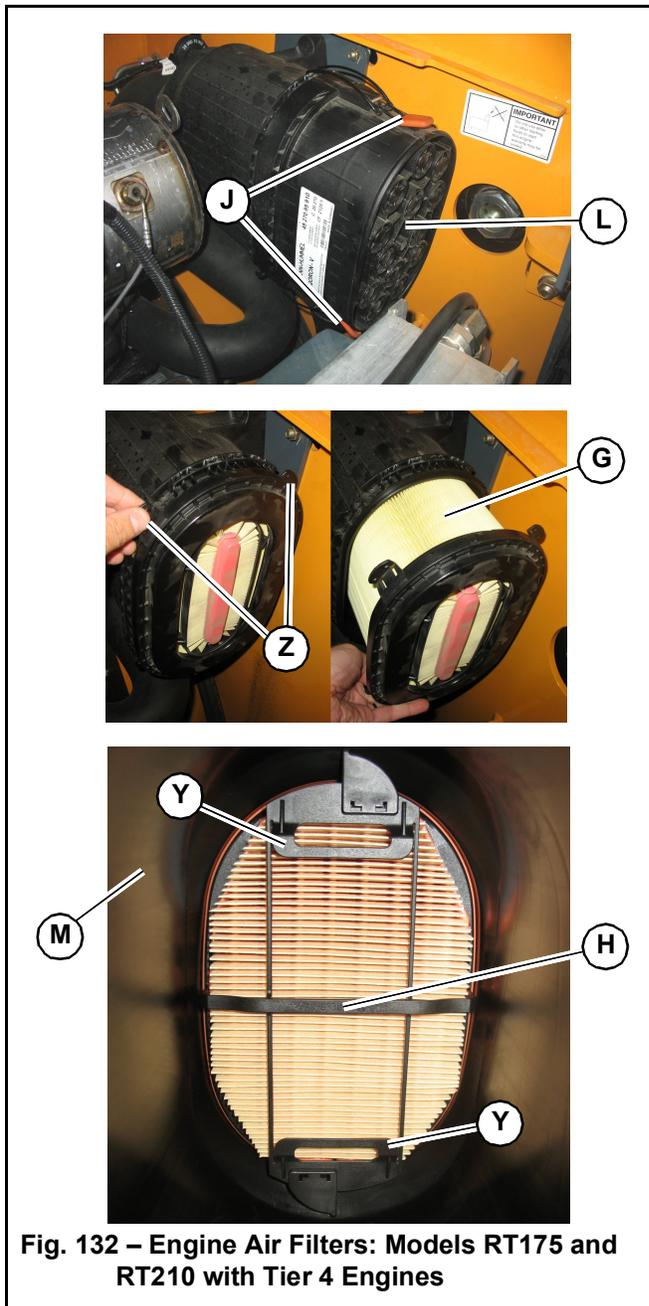

Fig. 132 – Engine Air Filters: Models RT175 and RT210 with Tier 4 Engines
The air cleaner consists of an outer (primary) filter element (G, Fig. 132 and Fig. 133), an inner (secondary) filter element (H) and an optional pre-cleaner.
3. Unlatch clamp (J, Figs. 132 and 133) on the air cleaner housing and remove the air filter cover (L).
4. Clean debris from inside the air cleaner housing (M) and air filter cover.
- Carefully remove the outer filter element (G). Do not remove inner filter element (H) unless it will be replaced. If inner filter element (H) will not be replaced, skip to step 10.
NOTE: On Models RT175 and RT210 with Tier 4 engines, pull tabs (Z, Fig. 132) to remove out filter element (G) and pull tabs (Y) to remove inner filter element (H).
- Clean dirt from inside the air filter housing (M).